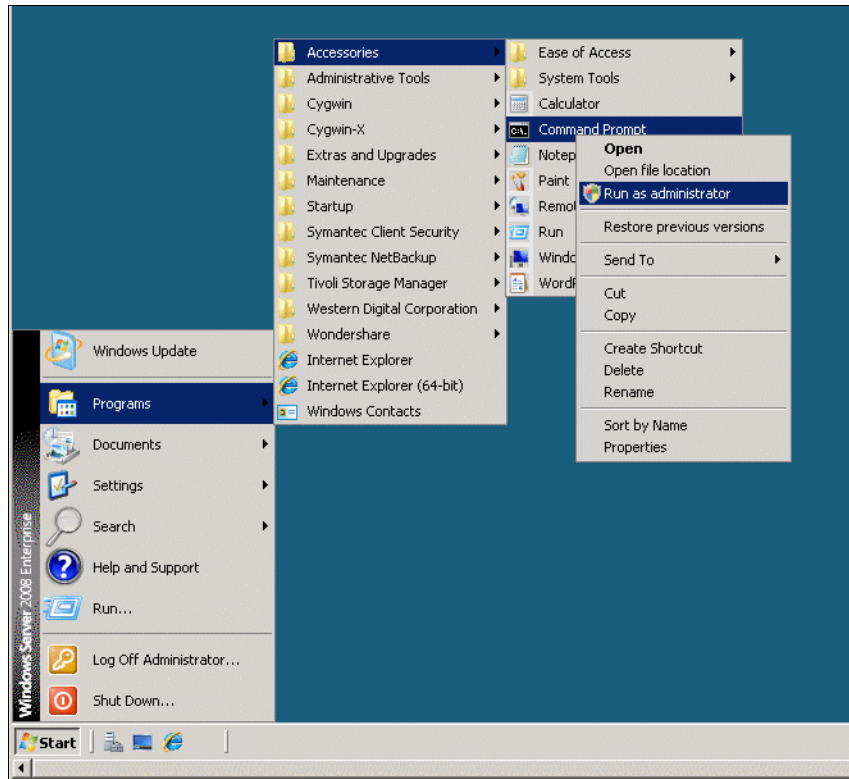

Figure 9-15 Start command shell from Windows server
**Note:** From Windows, the path to `ostp_cli` is `PROGRAMFILES\IBM\ost_plugin_tools\ostp_cli`, where `PROGRAMFILES` is the path to the program files directory, usually `C:\Program Files`. For a Windows 2008 installation, the plug-in must be run using the Administrator account. Select **Start** → **Programs** → **Accessories** → **Command Prompt**, right-click **Command Prompt**, and select **Run as Administrator**, as shown in Figure 9-15.